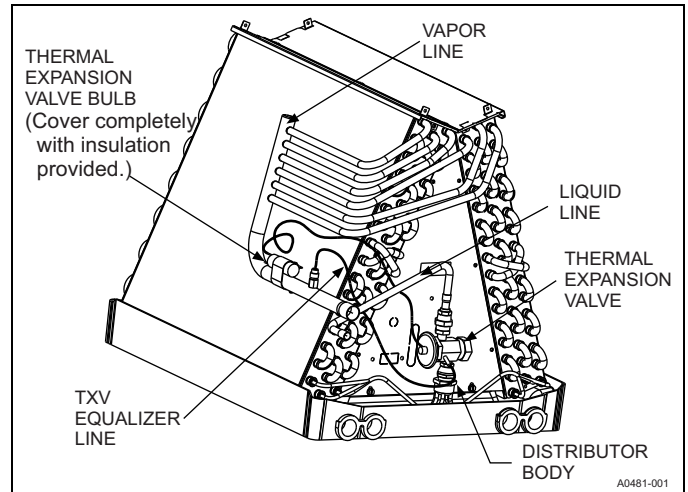

FIGURE 1: Kit Installation in System
3. Install the TXV on the distributor assembly with supplied fittings. Orient the TXV as shown in Figure 1. Hand tighten, and tighten an additional 1/4 turn to seal. Do not over-tighten fittings.